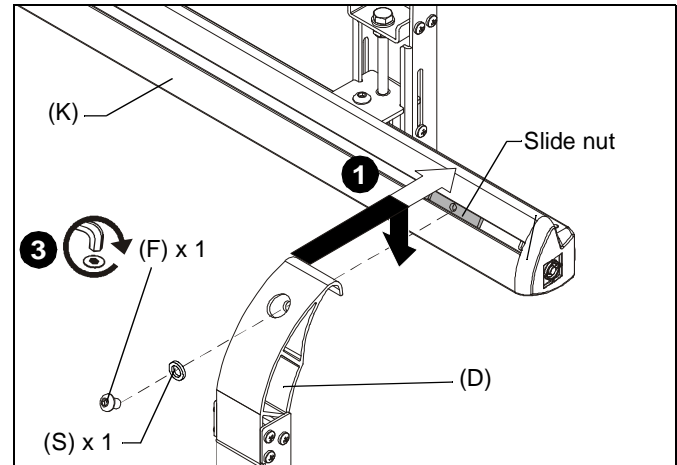

Figure 7
- Hook upright assemblies (D) with attached whiteboard hanger brackets (Z) onto the wall assembly (K). (See Figure 7)
- Move the slide nut so that it is aligned with one upright (D). (See Figure 7)
- Fasten upright in place using one 1/4-20 x 3/8" button head cap screw (F) and one .4"x.255"x.0625" nylon spacer (S) into slide nut. (See Figure 7)